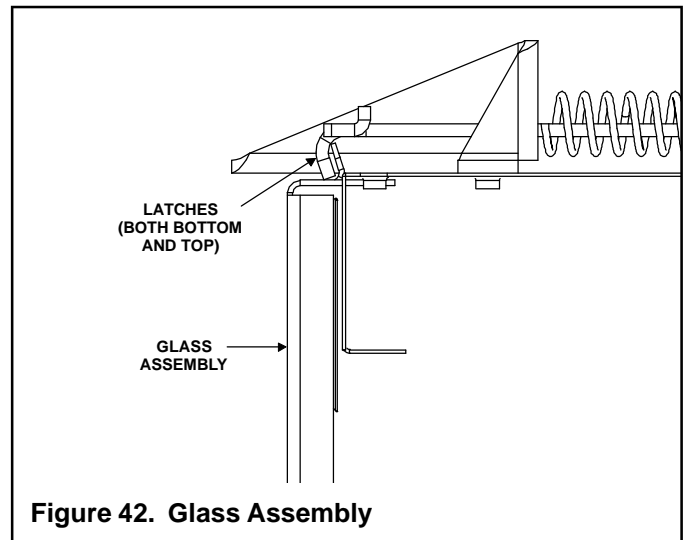

Figure 42. Glass Assembly
- Pull the four glass latches off of the tabs on the glass frame. Remove glass door from the unit (see Figure 42).